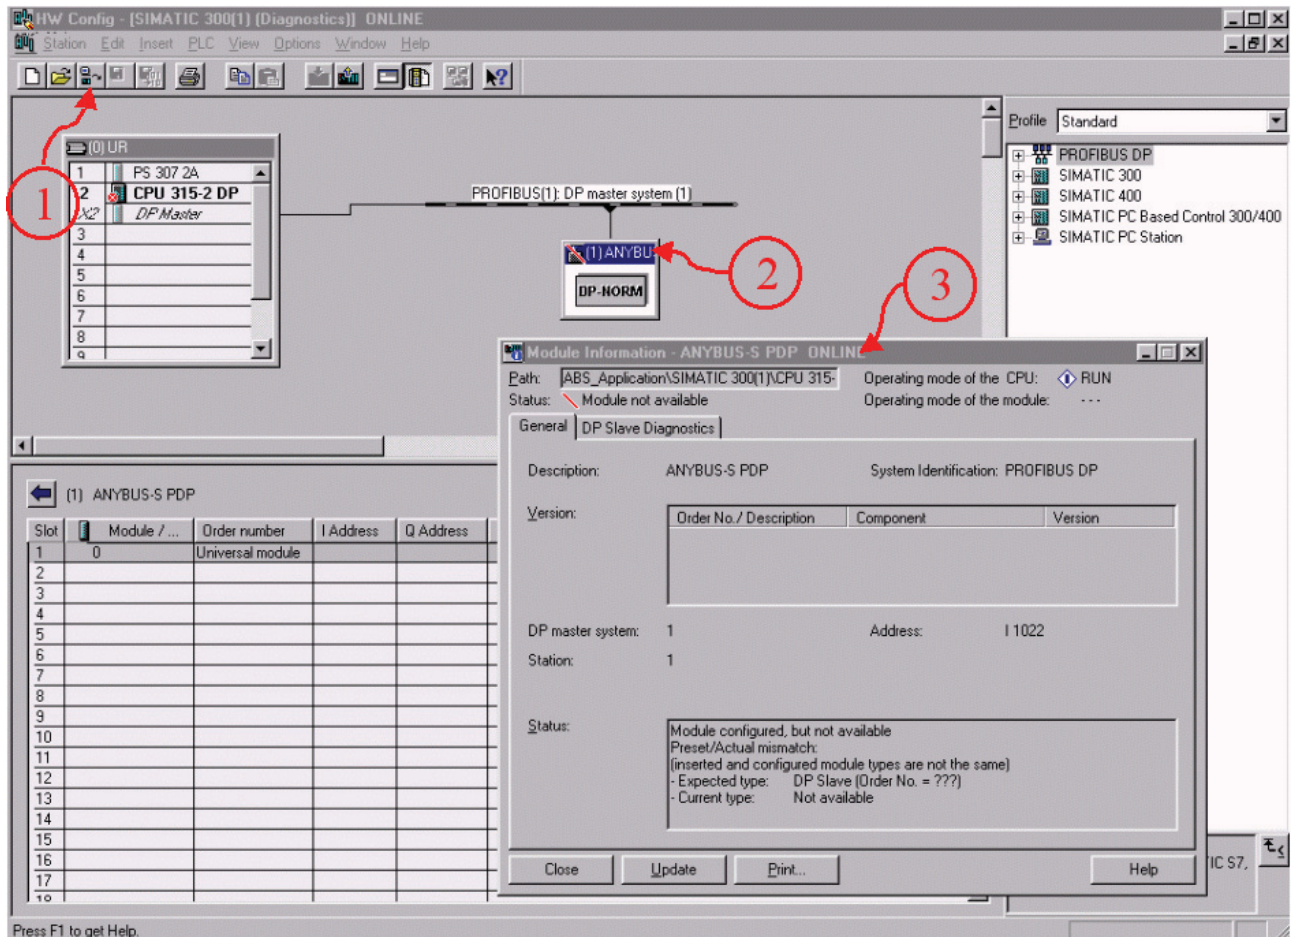

Figure 33 Step7 Hardware diagnostics.
Step7 and the HW Config program provide diagnostic possibilities via the PROFIBUS master over the network. Start with going online by clicking on the button ❶ in Figure 33. Then right-click on ❷ and chose “Module Information” and the diagnostic function will be started. The window ❸ will be displayed and available diagnostics can be read out.